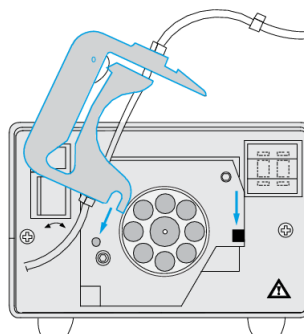

Figure 2 Installing Cassettes
- 3 Ensure that the pressure control lever is fully open. Re-insert the cassette into the Peristaltic Pump and secure them by re-attaching the side support bar, see Figure 2 on page 1.